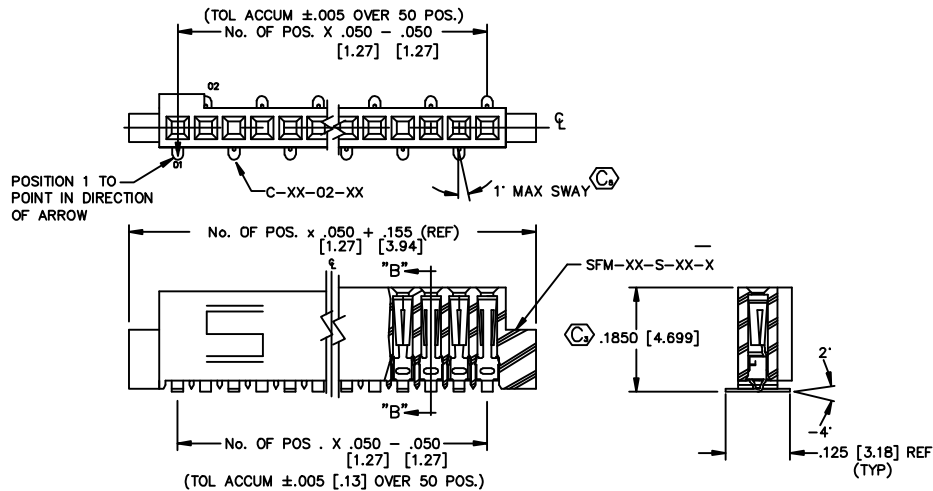

FIG. 2 -02: SURFACE MOUNT
- 02: SURFACE MOUNT USE CONTACT: (C-44-02-XX) (SEE FIG. 2)
- L2: SURFACE MOUNT (LOW INSERTION) USE CONTACT: (C-61-02-XXX) (SEE FIG. 2)